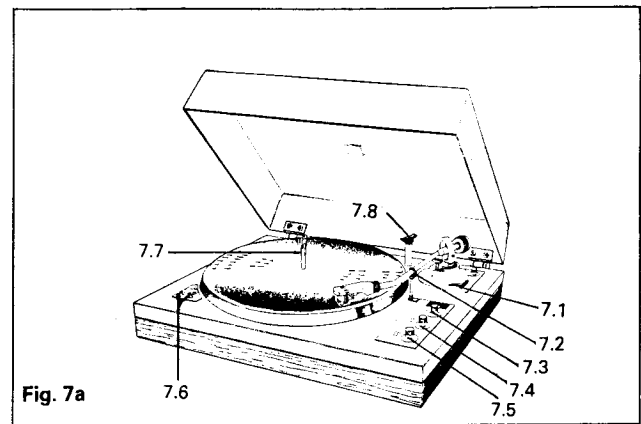

Fig. 7a
- 8 Secure the pickup arm, set the mode selector (7.4) to 'Manual' and turn the turntable platter clockwise. Return the selector to 'Off' if it does not soon do so. See figure 7a.